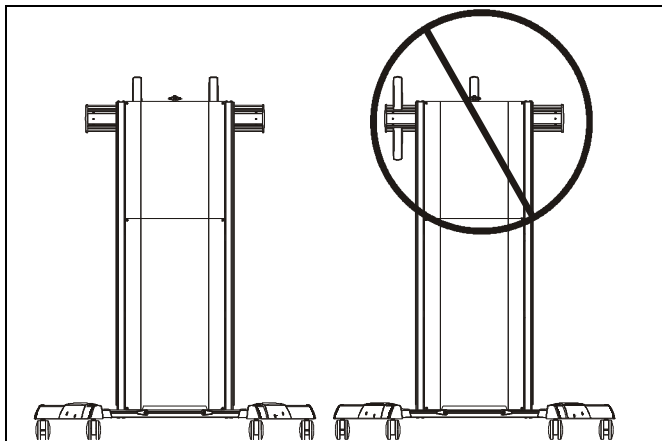

Figure 9
**IMPORTANT ! :** In order to ensure an even mount, install uprights to be centered over column assembly. Do NOT install both uprights to the same side of column assembly! (See Figure 9)